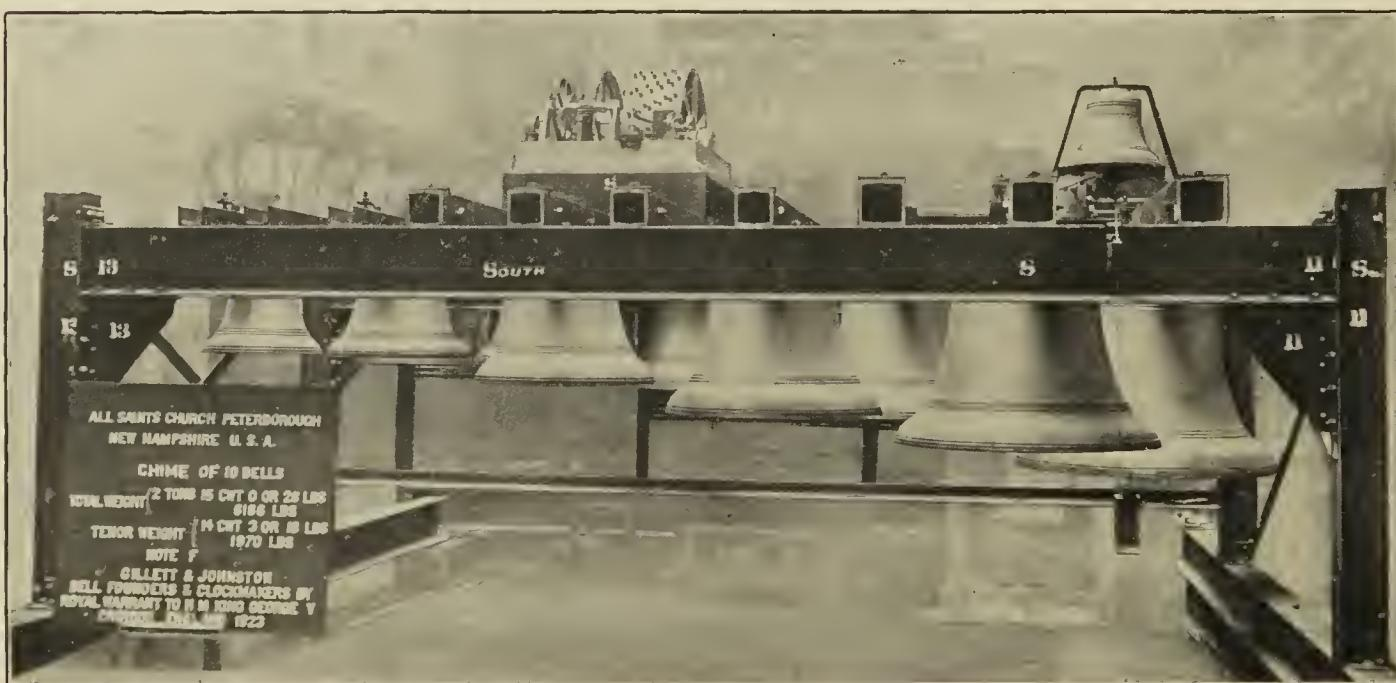

Fig. 4. Chime of Ten Bells with Machine for Playing "Changes"
**Automatic Change Ringing Machine:** Fig. 4. "Changes," that is a sequence of notes used when the bells are swung by a trained band of Bell-ringers, can be played effectively by means of a motor-driven machine of the drum type, operating hammers striking on the outside of the bells. This machine is usually started and stopped from a convenient position on the ground floor.